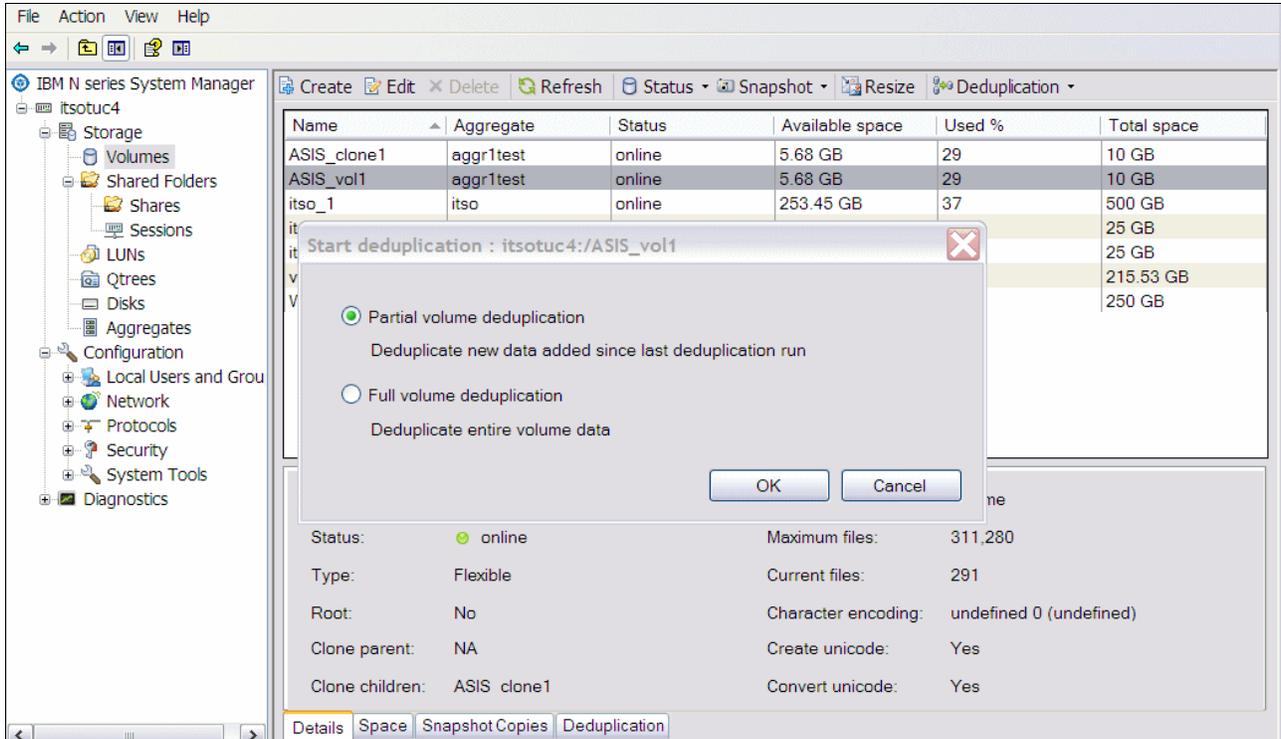

Figure 7-16 Starting deduplication
5. Start a new ASIS session on the parent volume ASIS\_vol1, checking that only the new data will be deduplicated, not the complete volume because this was already deduplicated and we don't need to scan the entire volume (Figure 7-16 on page 215).